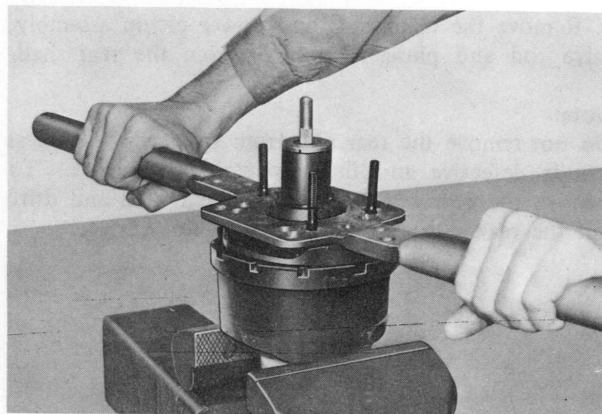

Fig. 11-13 Removing rear shell
5. Attach a suitable wrench to the studs of the rear shell as shown in Fig. 11-13. Rotate the rear shell clockwise to unlocked position.